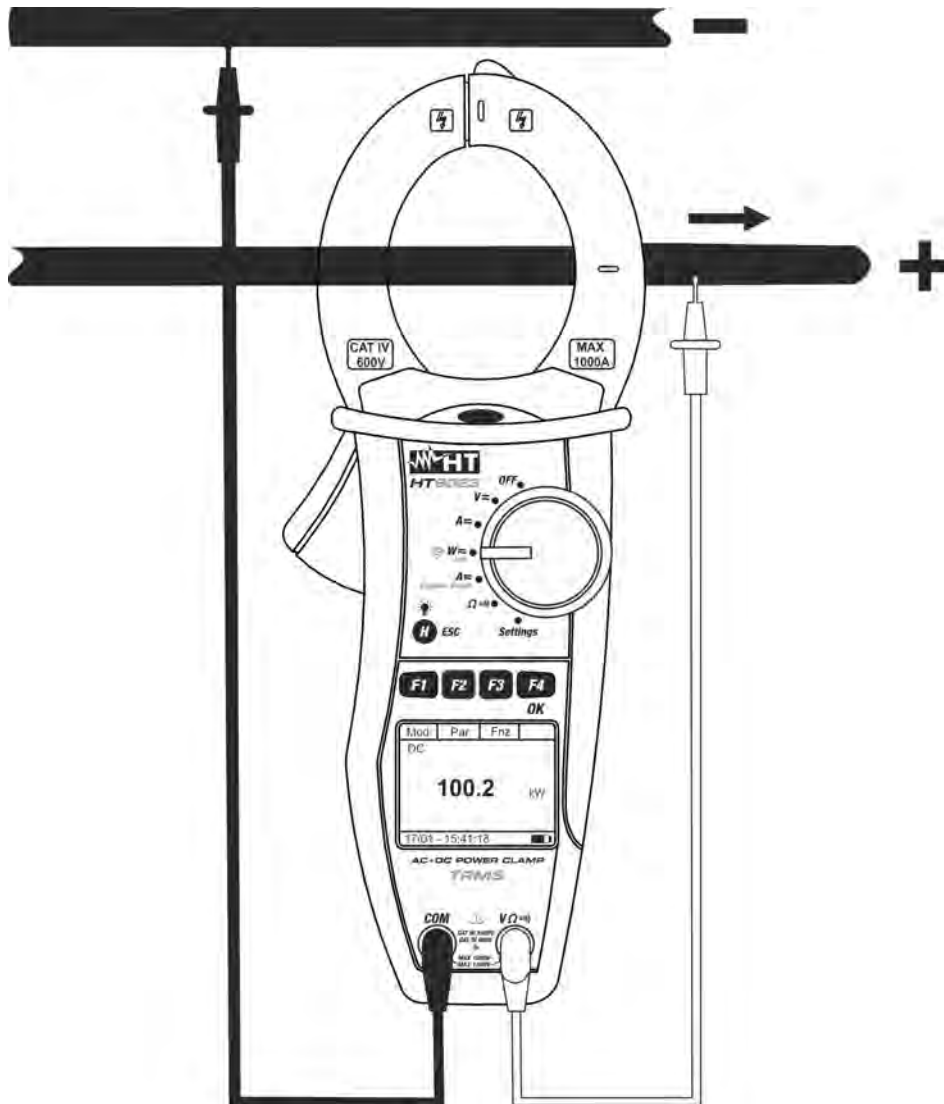

Fig. 12: DC power/energy measurement
- Connect red cable to input lead **VΩ[Ⓜ]** and black cable to input lead **COM**. Position red lead to “+” and black lead to “-” then connect “+” cable to the clamp jaws, respecting the direction of current indicated by the arrow (see Fig. 12). Connect the cable to the middle of the clamp jaws, in order to get accurate measurements. Use the marks as a reference (see Fig. 2)
- The value of DC power is displayed expressed in kW. Press **F2 (Par)** to open the drop-down menu shown on the screen aside and select the “**Volt/Curr**” option for the DC voltage and current measurement. Confirm with **F4 (OK)**. The following screen is displayed: